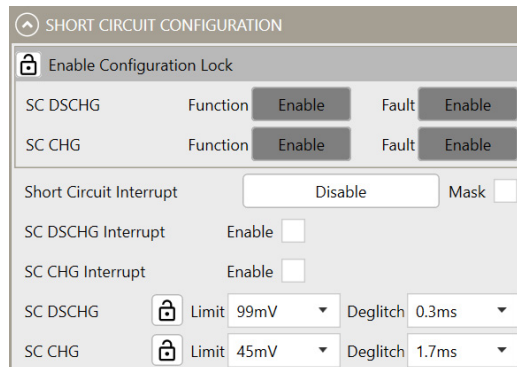

Figure 17: Short-Circuit Configurations
19. Figure 17 shows how to configure the short-circuit parameters.